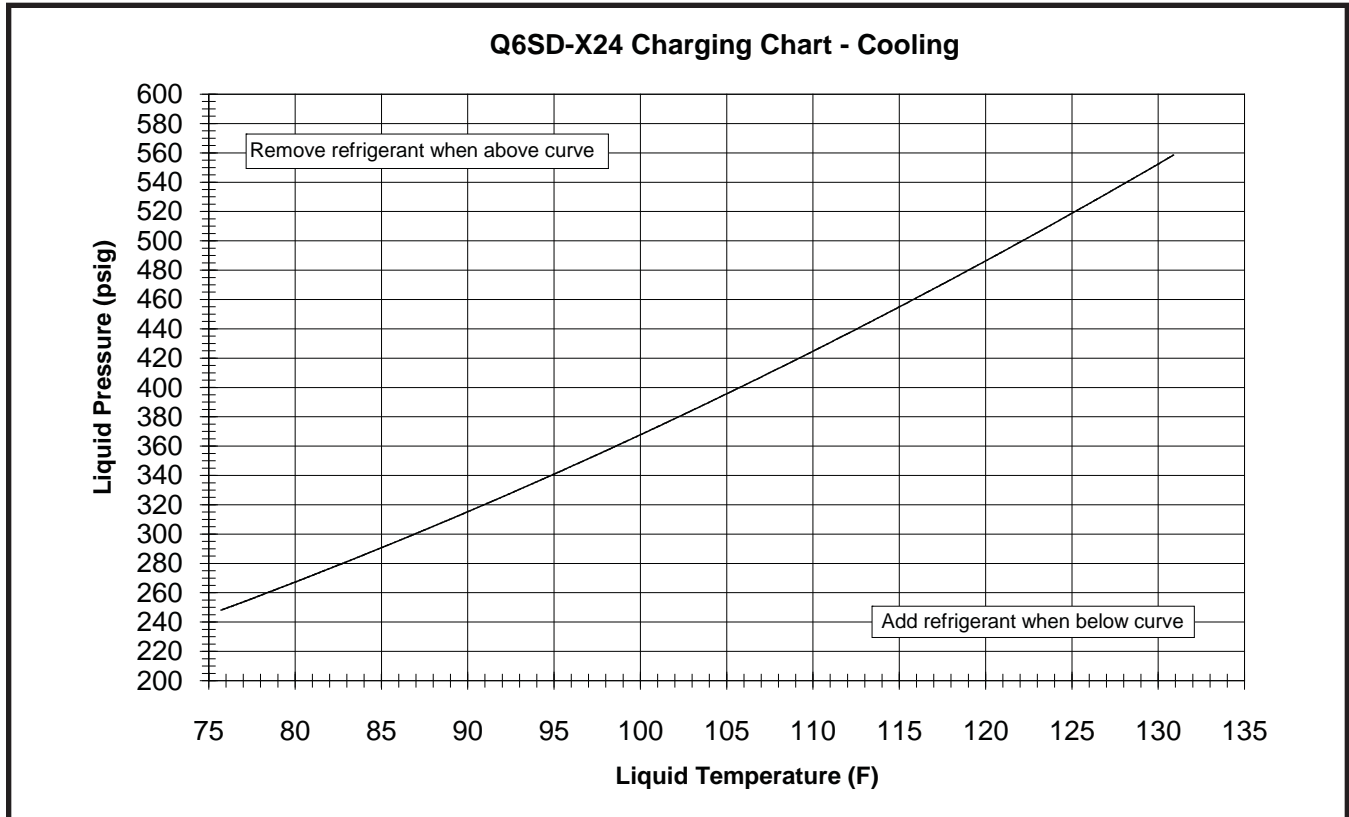

Figure 9. Charging Chart for 2 Ton Units
- The refrigerant charging charts (Figures 9 - 14, pages 17 - 19) are applicable to listed assemblies of equipment and at listed airflows for the indoor coil. Assemblies of indoor coils and outdoor units not listed are not recommended.
3. For the temperature measured, determine the required liquid refrigerant pressure from the appropriate charging charts in Figures 9 - 14.